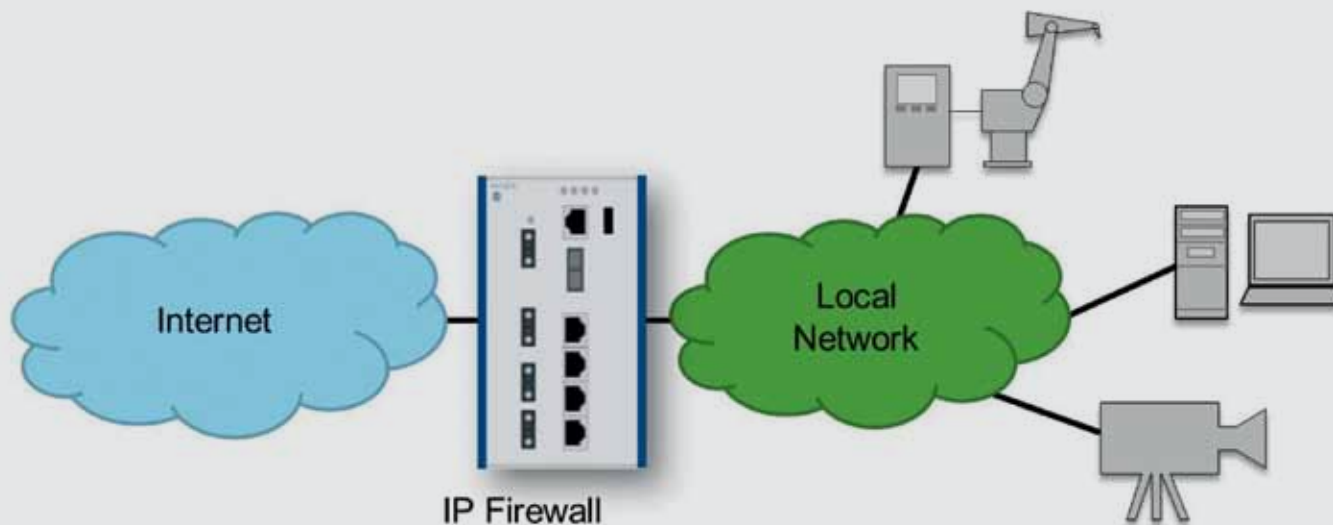

Figure 1: Firewall between the Internet and the local company network.
traffic between various networks (see Figure 1). Such a firewall is called an IP firewall since it processes Internet Protocol (IP) traffic. Because these firewalls are often installed very near the actual facility, industrial hardening must also be taken into consideration. Extended temperature ranges or approval for use in special areas (such as energy supply, hazardous location and transportation) are crucial.